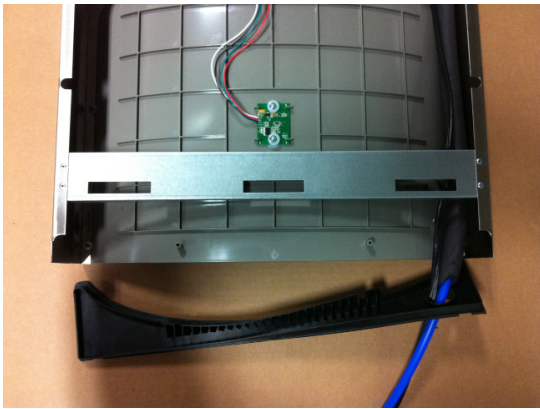

Fig. 10
- 7) **Feed power cord** & 3/8" water line through hole in tower/basin gasket (See Fig 10).